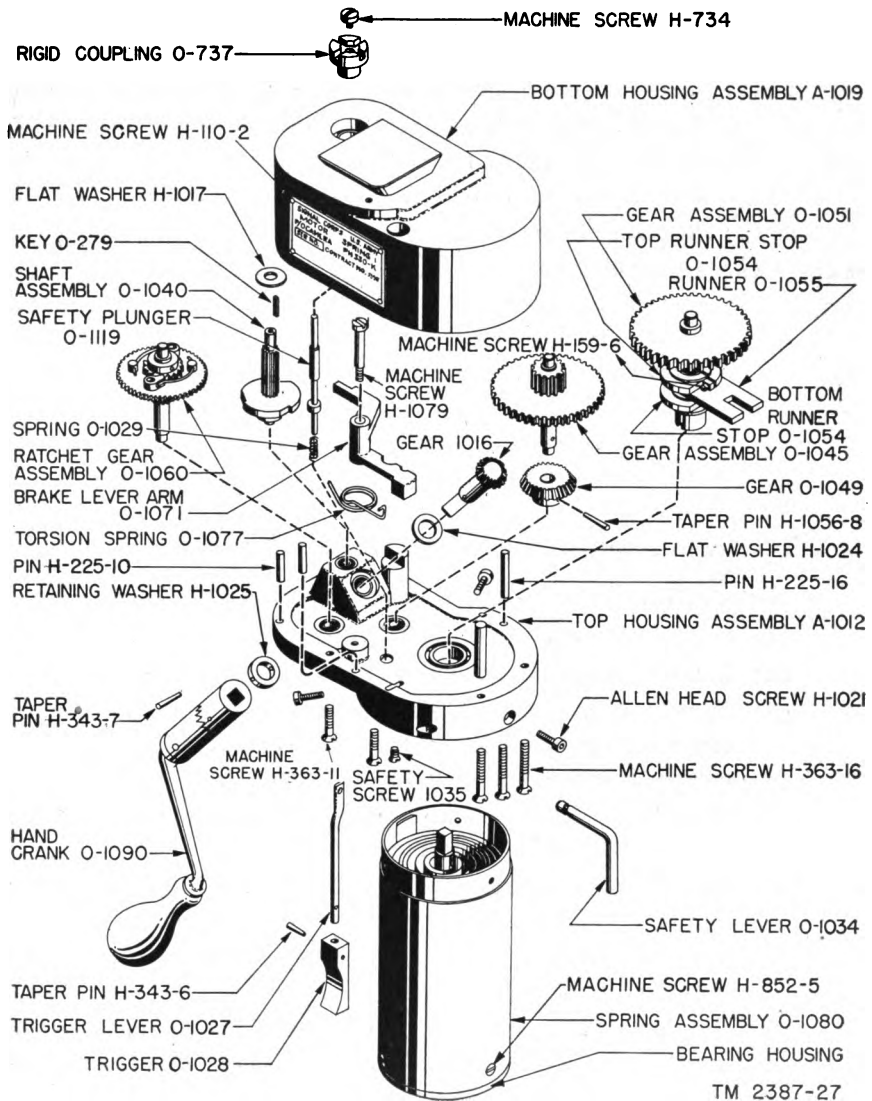

Figure 28. Spring motor drive unit, exploded view.
b. **SPRING MOTOR** (fig. 28).
- (1) *Disassembly.* Before disassembling the spring motor, be sure the spring is unwound fully. Never allow the spring motor to unwind without a load. Attach the drive unit to the camera and operate the unit until fully unwound. Be sure safety lever O-1034 is in the unlocked position.